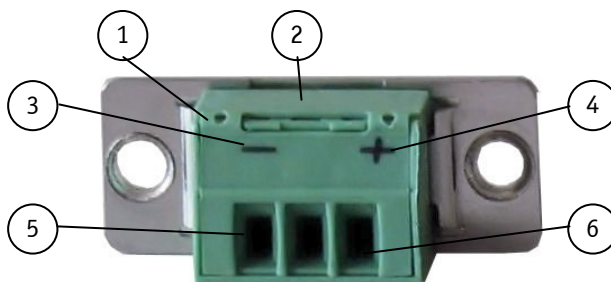

Fig. 29: Phoenix plug terminal (option) with "plus" and "minus" marking
6. Insert the wires into the corresponding clamp of the Phoenix plug terminal. Make sure that you have the right polarity of the connection (refer to Fig. 29).